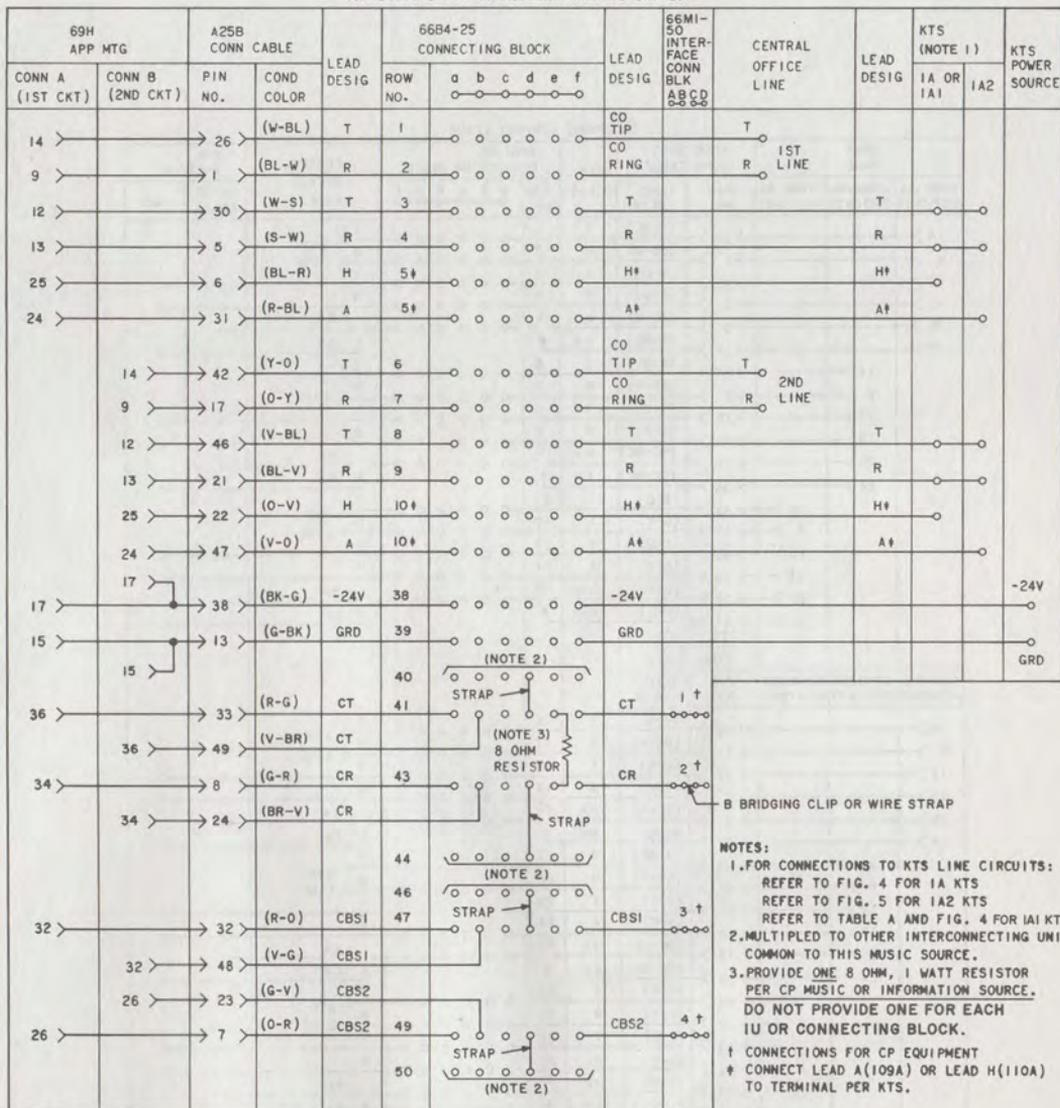

Fig. 6—Connections for Voice Connecting Arrangement LVH Using 69H Apparatus Mounting
**6.01** Provide straps on the 66B4-25 connecting block(s) between terminals 40 and 41, 43 and 44, 46 and 47, and 49 and 50 as shown in Fig. 6 and 7.
**6.02** Place a KS-14603, L3A, 8-1/4 ohm resistor or 8-ohm 1-watt resistor (furnished locally) across CT and CR leads to CPE at the 66B4-25 connecting block (see Fig. 6 and 7). The resistor should have pigtailed no larger than 19 gauge to connect in the quick-connect clip-type terminals.
**6.03** For connection information when using the 69H apparatus mounting, refer to Fig. 6, 8, and Table A.